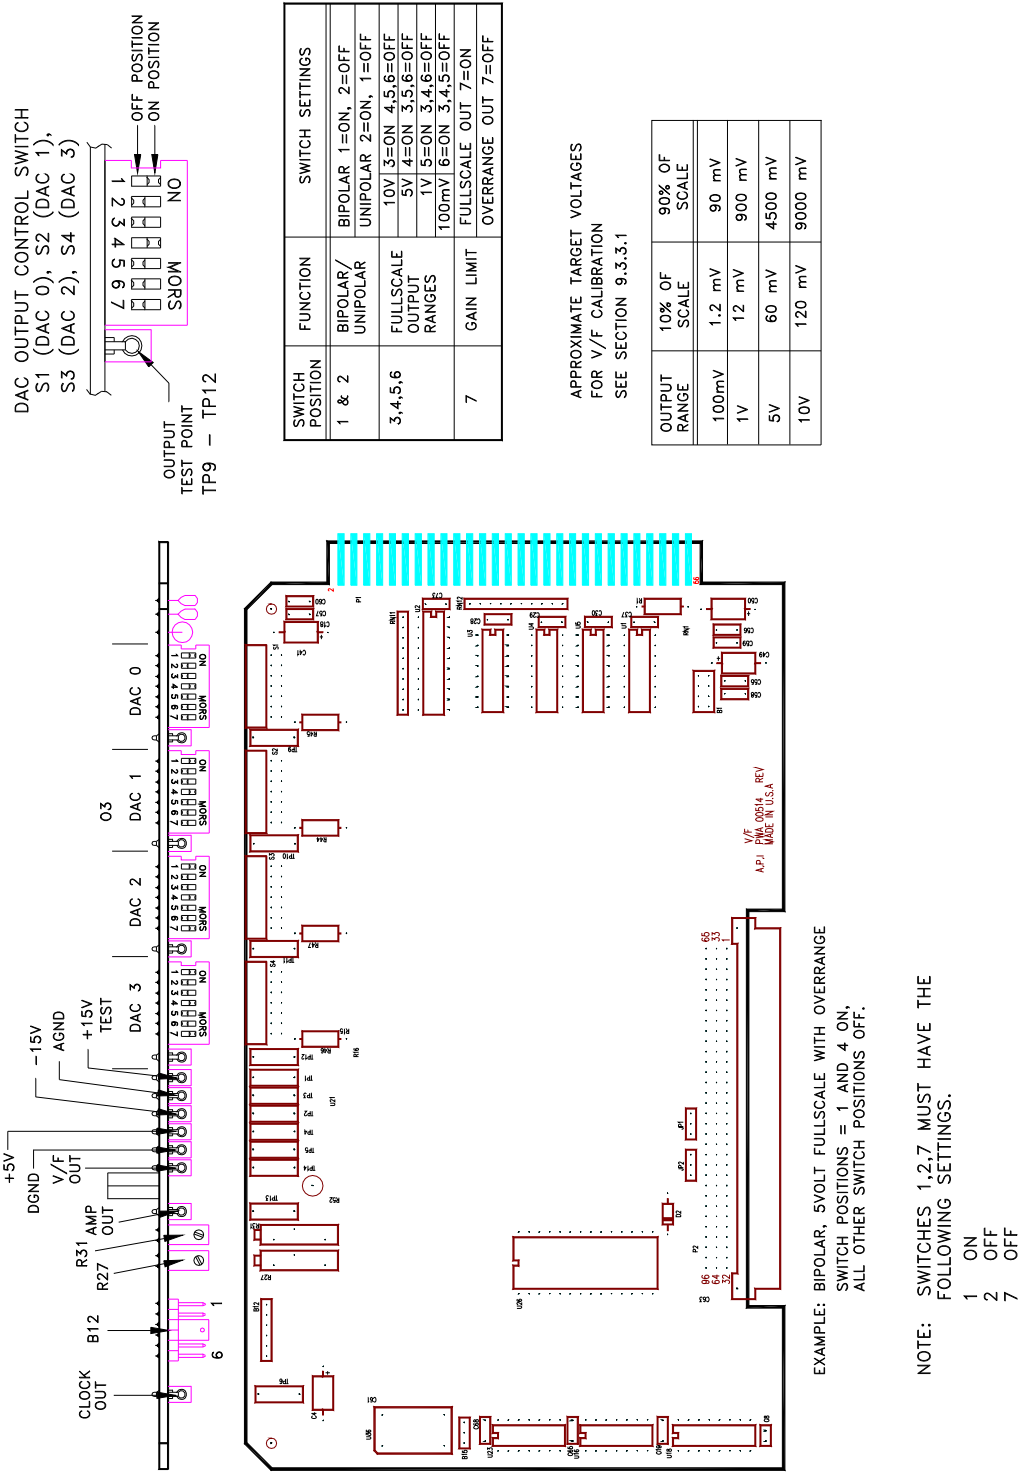

Figure 1-4: V/F Board Switch Settings
5. Attach the analog output connections to a strip chart recorder and/or data-logger. See Figure 1-2 for connector pin-out definitions. See Figure 1-4 for V/F board switch settings. Factory default setting is 0-5 VDC.